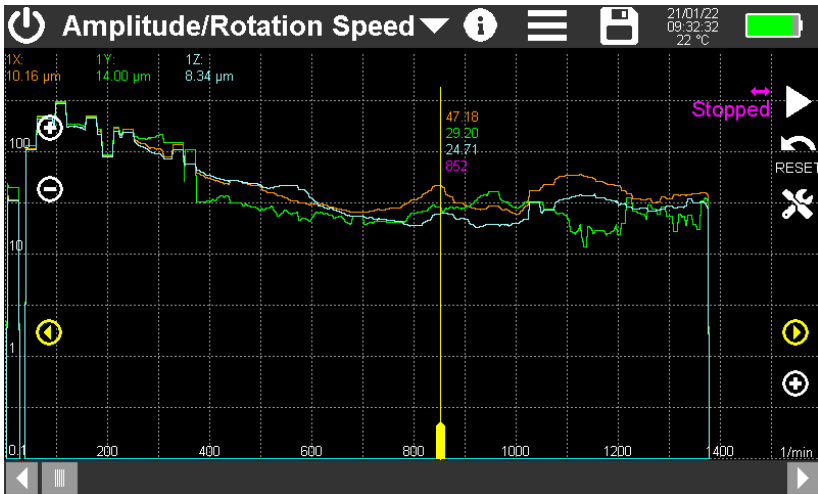

Figure 34: Amplitude/rotation speed measurement
This measuring module graphically displays the vibration amplitude as a function of rotation speed. The main application is the detection of resonances. Figure 34 shows a screenshot of an example measurement. In the upper part there is the uniform menu bar, which is described in section 3.3.
**Resolution** determines how wide an RPM step should be in the diagram. The higher the value, the more staggered the amplitude curves appear. Small values for the resolution provide smoother progressions, but on the other hand require a slower change of the speed, because the detection of the speed and the corresponding amplitude takes a certain time. If the instrument does not succeed in recording a measurement in a speed interval, gaps appear in the curve. In Figure 34 this can be seen on the left edge of the diagram.
At the top of the rotation speed diagram (Figure 34) the currently measured amplitudes of the measuring channels are displayed. Channels without a sensor are not displayed. The rotation speed is displayed on the right side. If no pulses are detected, "Stopped" is shown instead. The arrow above indicates the selected speed ramp.